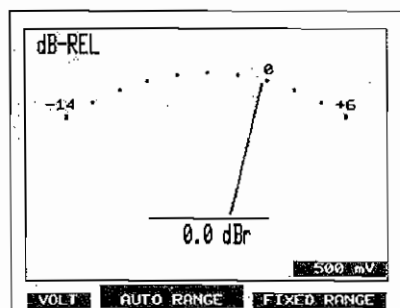
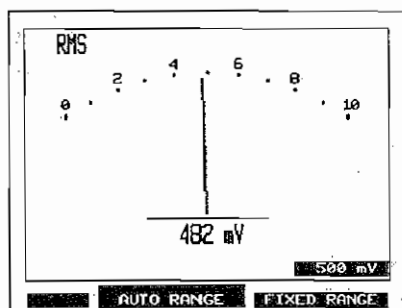

Fig. 2.17: Result measured with dB_r units. The end-of-scale values are updated automatically when the range is switched.
Fig. 2.18: Result measured with v units. Regardless of range switching, the scale of 0 to 10 will be preserved.
- If test results are in the units dB, dBr or dBm, the scaling with the end-of-scale values will depend on the active measurement range (Fig. 2.17). In all other cases the scaling is 0 through 10, regardless of the active range (Fig. 2.18). For the meters RMS (RMS voltmeter) and PWR (RF power meter) the measured unit is as declared in the menus AF-PAR and RF-PAR of the basic masks.